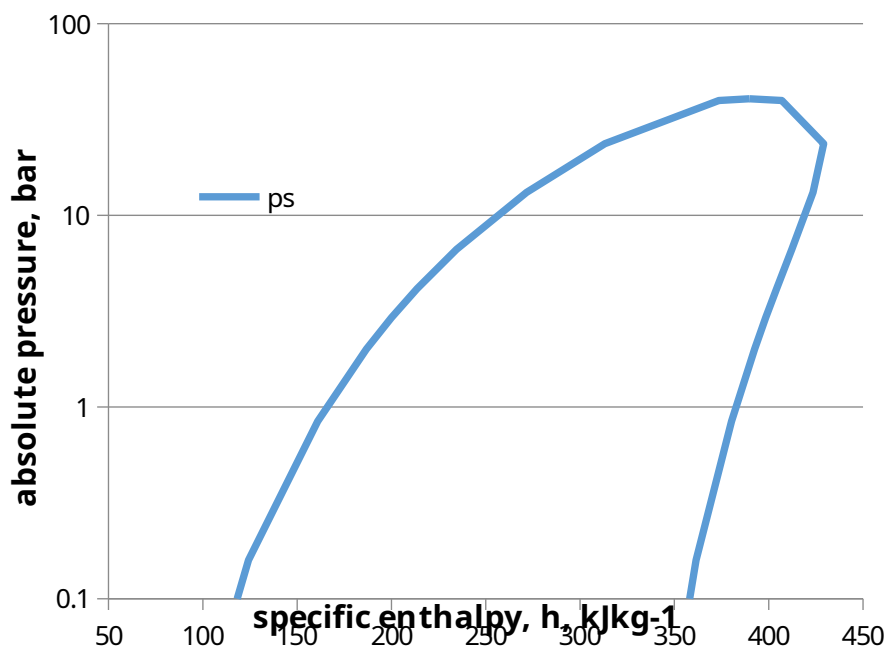

Figure Q11
11. The chart in Figure Q11 shows the p-h (i.e. pressure versus enthalpy) characteristics of the saturation pressure of refrigerant R134a. Draw a similar sketch of a p-h diagram and indicate on it the processes of a typical refrigeration cycle, using arrows to show the direction of the cycle and labelling the main components of the refrigeration unit that the cycle represents.